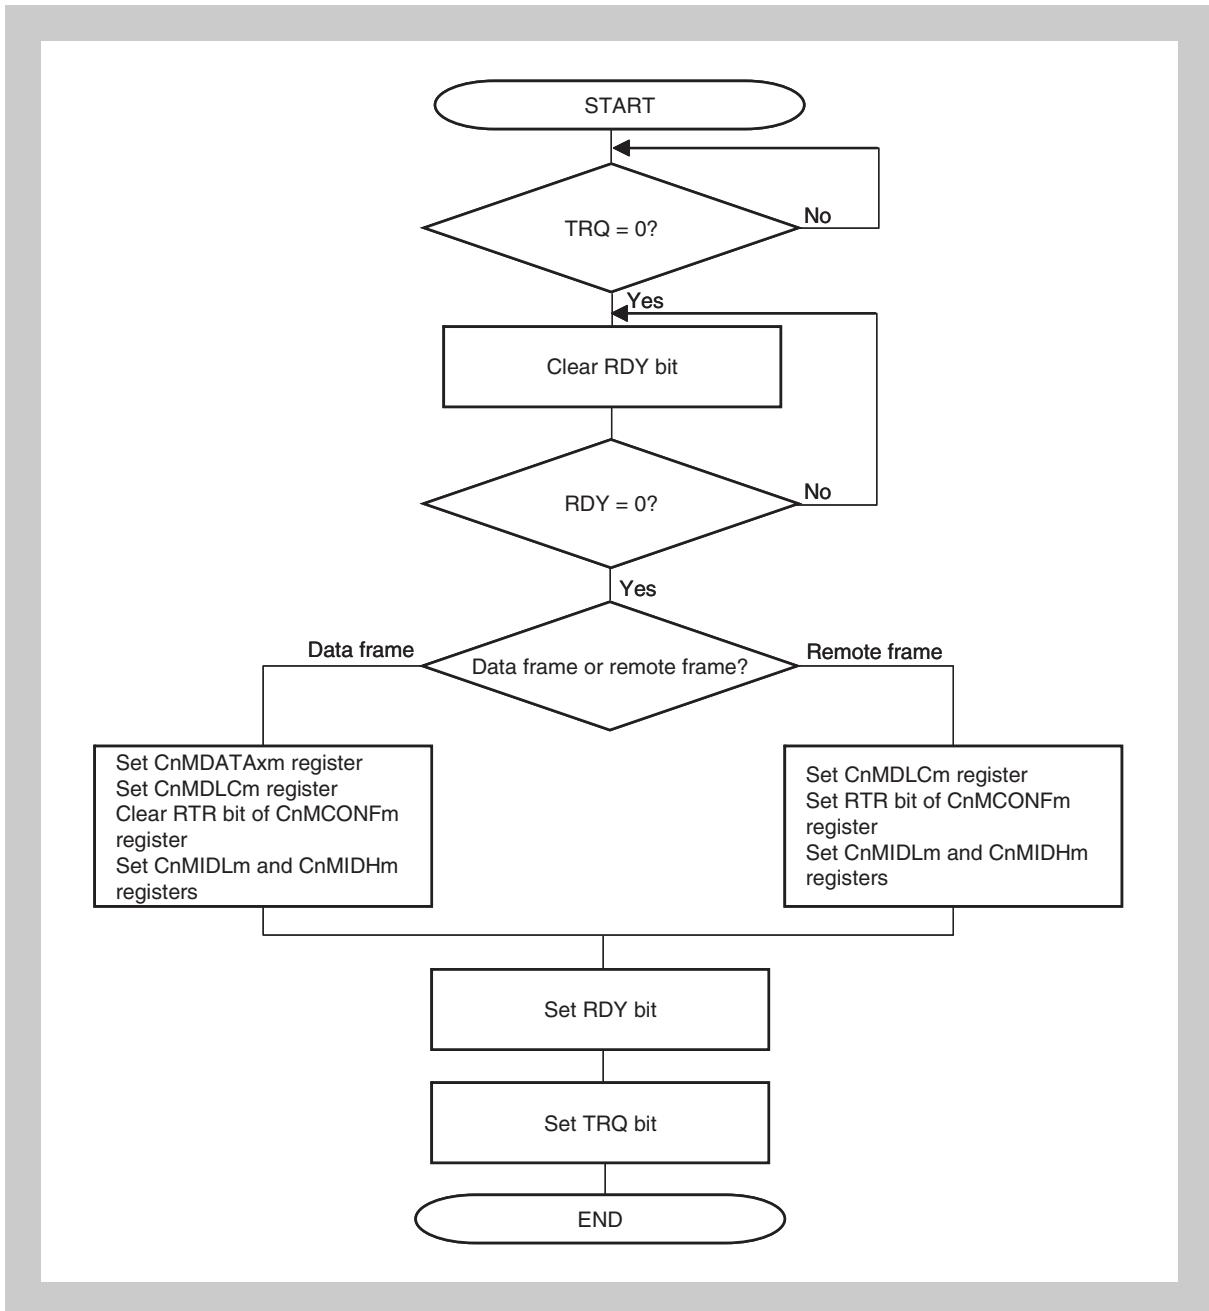

Figure 20-40 Message transmit processing
Figure 20-40 shows the processing for a transmit message buffer (MT[2:0] bits of CnMCONFm register = 000B).
**Note** This processing (normal operation mode with ABT) can only be applied to message buffers 0 to 7. For message buffers other than the ABT message buffers, see *Figure 20-40 on page 800*.